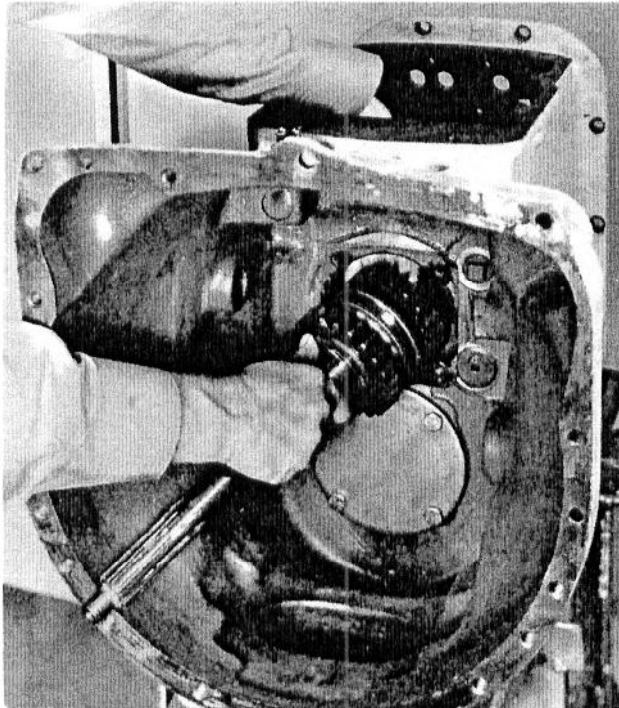

Fig. 20 - Installing Input Shaft Assembly
- b. Hold the pinions and shift collar together and carefully slide input shaft onto end of main shaft, as shown in Fig. 20.